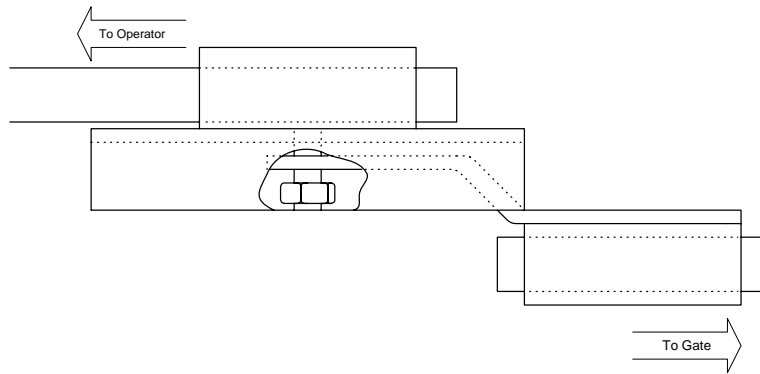

Figure 14
4. Slide the connector assembly (Figure 14) onto the crank arm so that the flange is away from the gate.